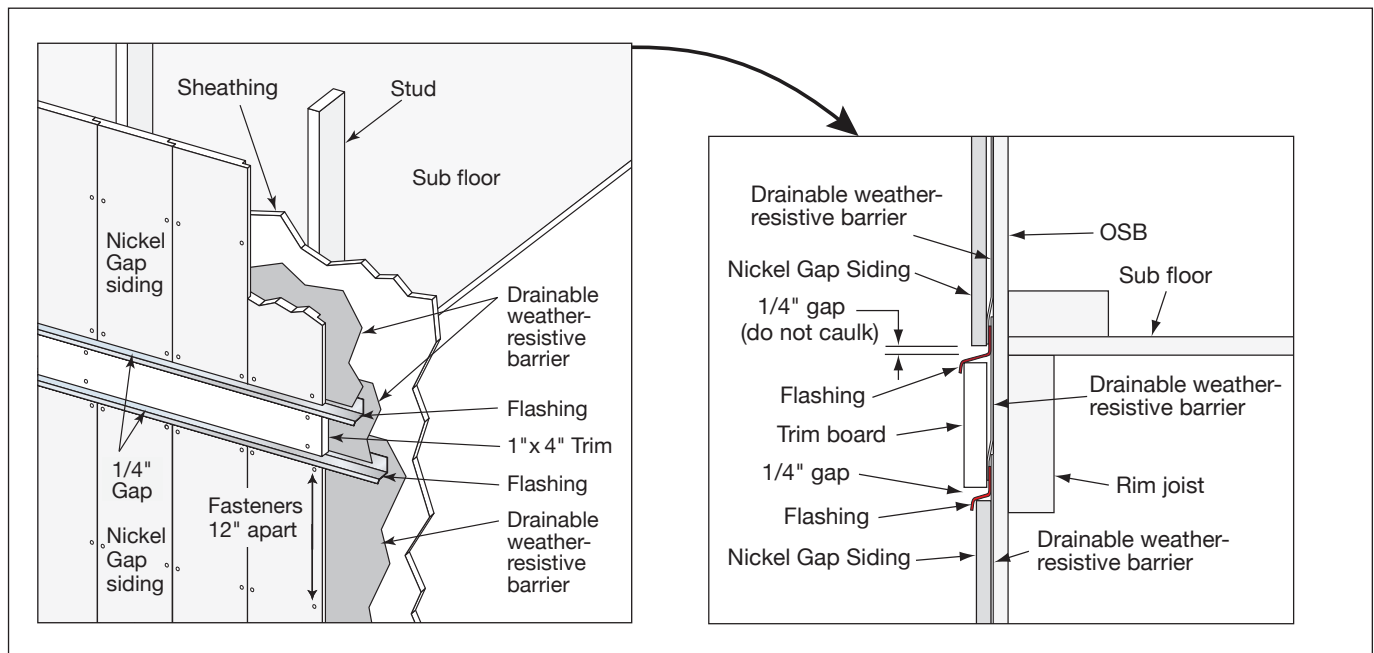

Fig. 24
- Decorative band board trim can be installed using 2 methods (**Fig. 24 & 25**)